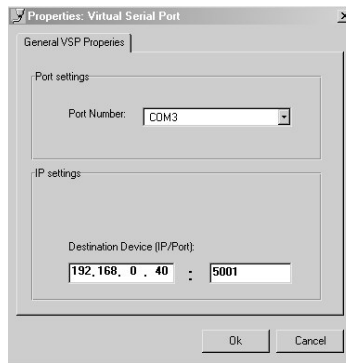

Figure 9: The Virtual Serial Port Properties Window
2. Press the **Add VSP** button to add a serial port and type the IP settings according to the IP address and local port of your **VS-8DVI-R** (see Figure 9).